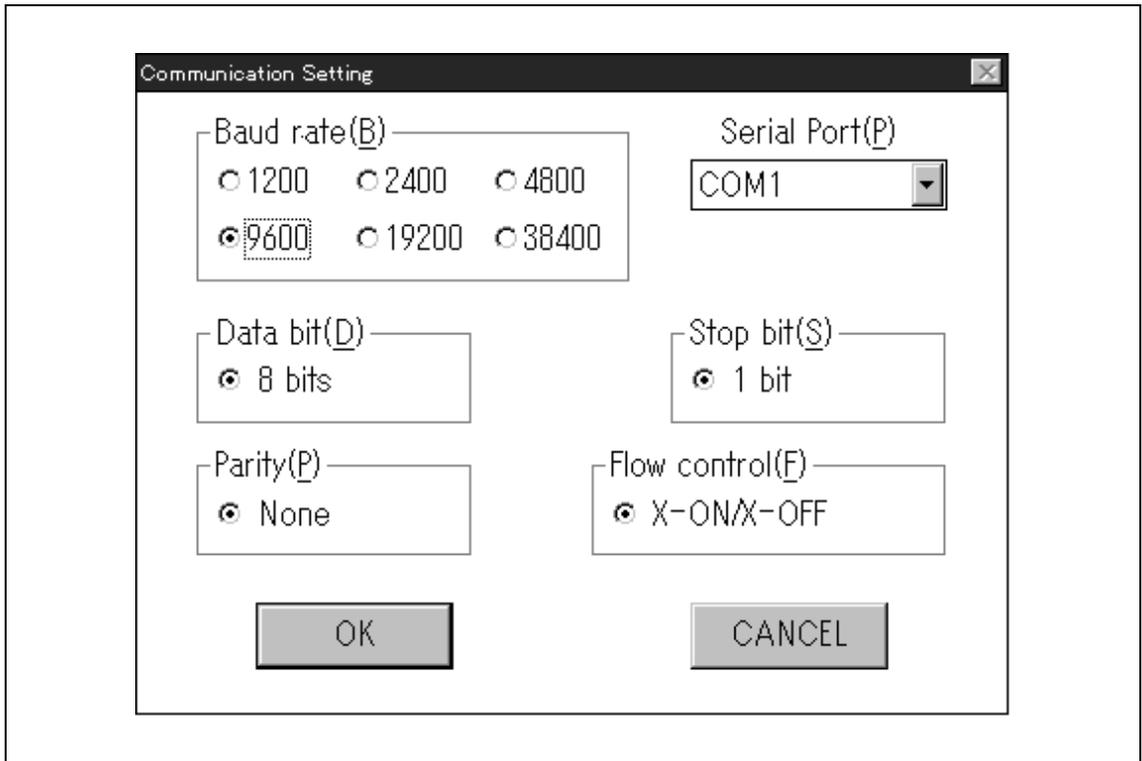

Figure 3.22 Communication Setting Box
1. Clicking COMM in the Setting menu displays the Communication Setting box (figure 3.22). The Communication Setting box can also be displayed by pressing (Alt) + S keys and then the C key. Set the communications conditions to be the same as those of the DIP switches on the E8000 station rear panel.